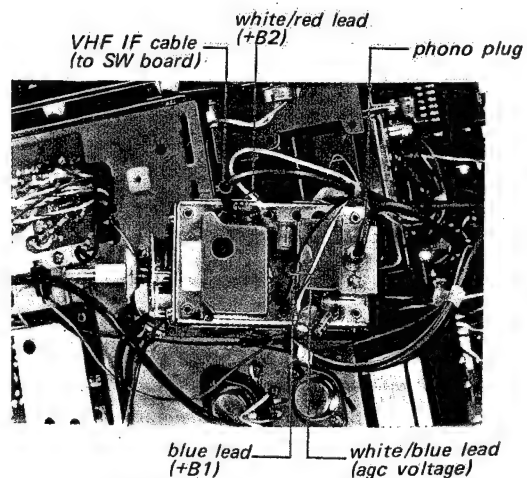

Fig. 2-9.
5. Unsolder the following leads at the VHF tuner. (See Fig. 2-9.)